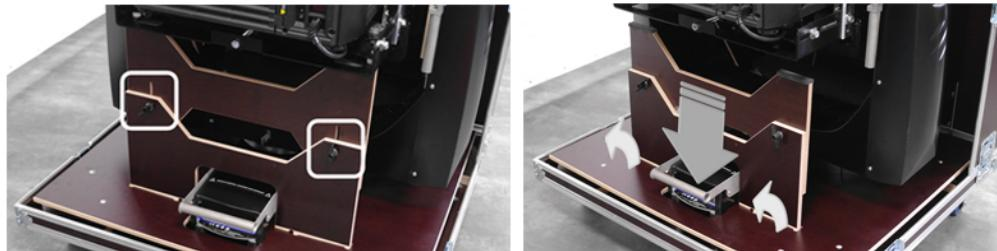

Figure 4-25 Remove Retention Plate
2. Unlock the retention plate (2 places), slide it down then remove it. (Figure 4-25)